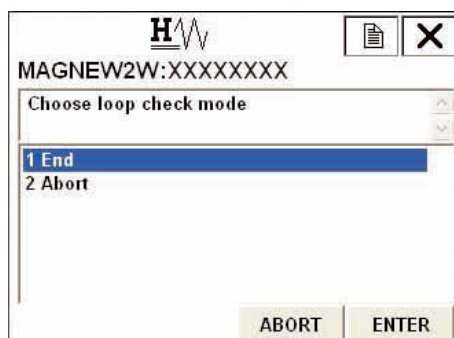
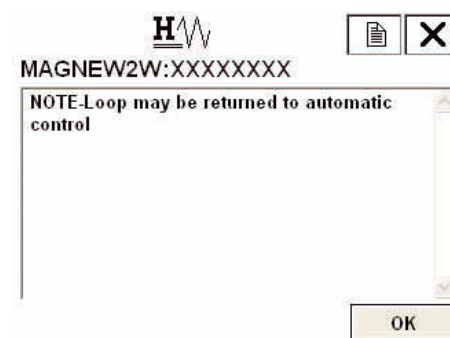
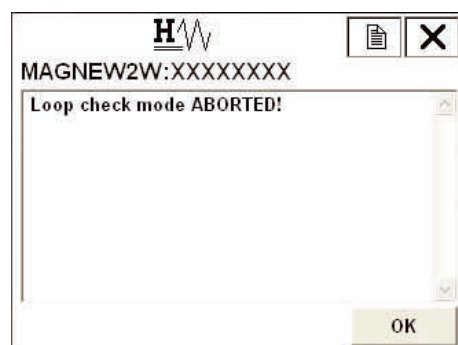
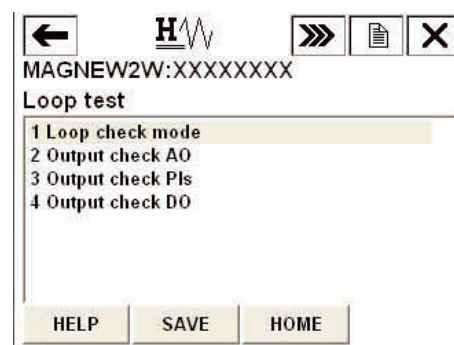

Figure 7-75
Figure 7-76
Figure 7-77
Figure 7-78
3. During the loop check, Figure 7-75 is displayed. If the loop check is finished, move the arrow key up or down and select “1 End” to select other analog output value for the loop check. If you finish the loop check, move the arrow key up or down and select “2 Abort” to abort. Then Figure 7-76 is displayed.
4. Once the display as shown Figure 7-76 appears, press “OK” to abort. Then Figure 7-77 is displayed. Press “OK” and then the screen returns to the loop test menu as shown in Figure 7-78.